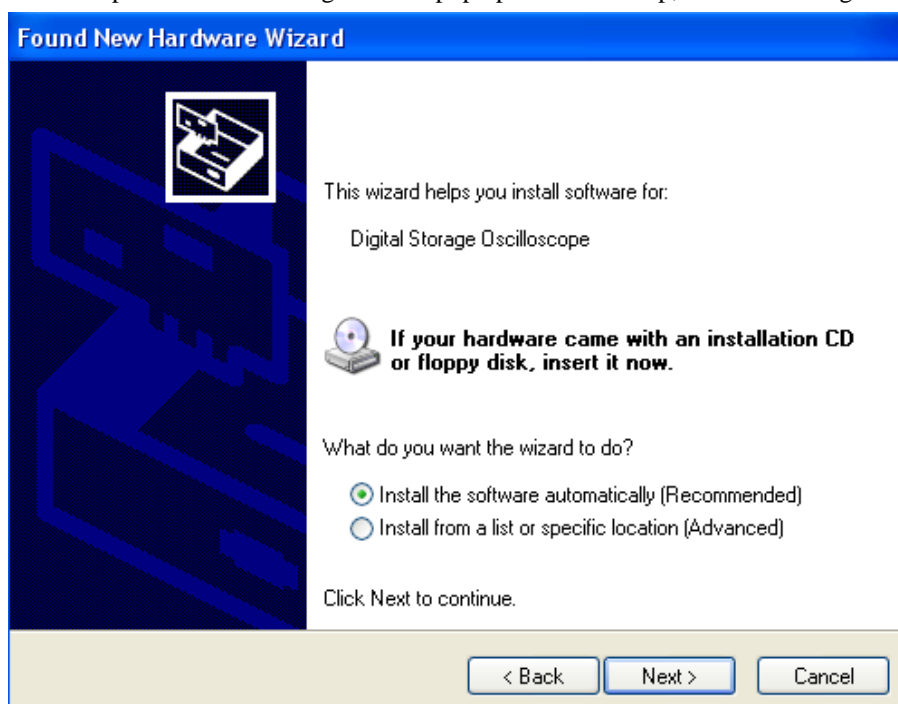
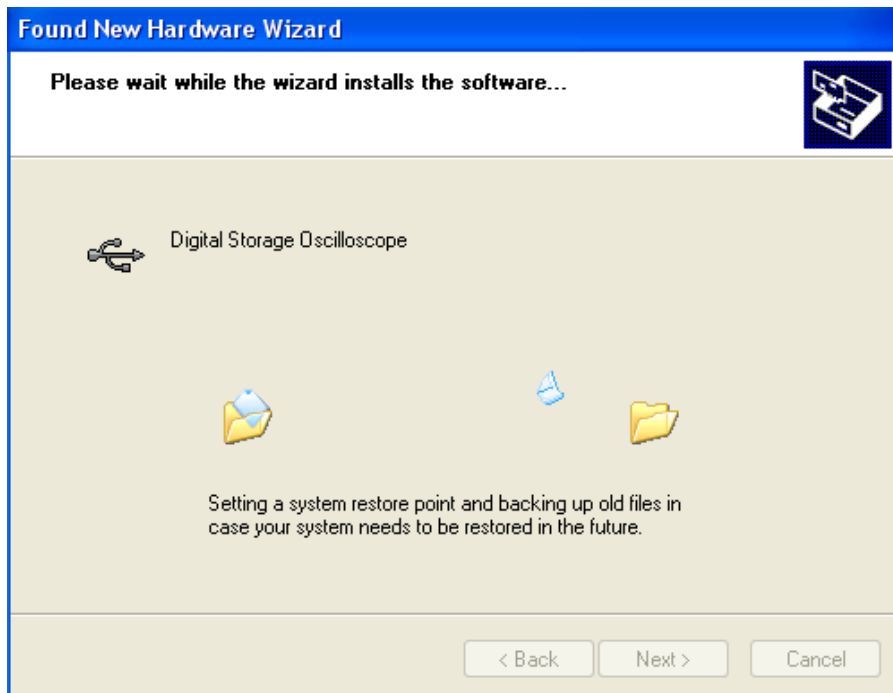
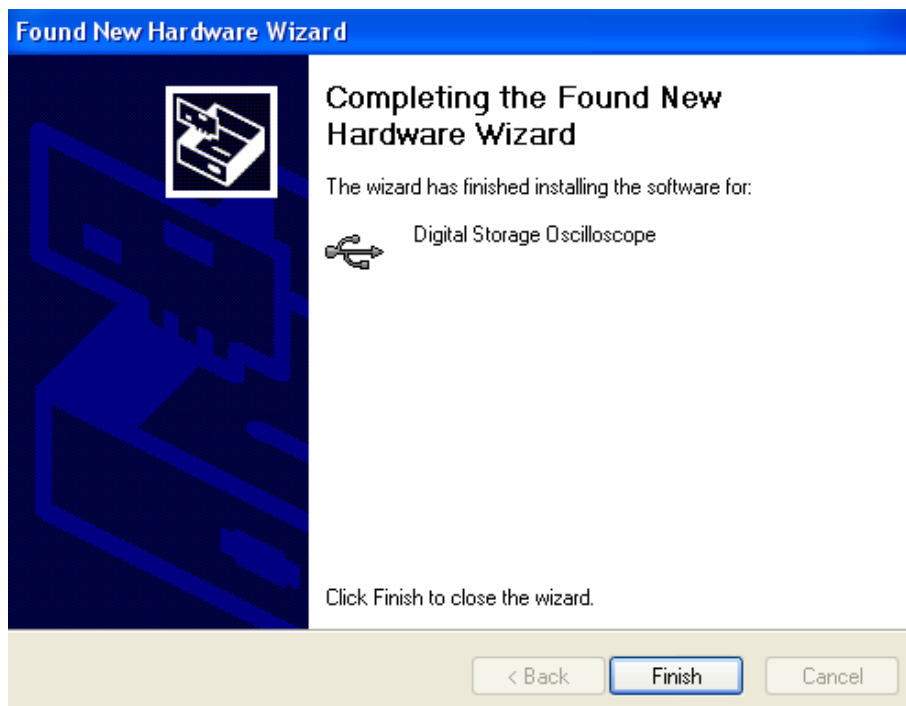

Fig 1-12
Fig 1-13
Fig 1-14
Then a “hardware update wizard” dialog box will pop up on the desktop, as shown in Fig 1-12.
3. In the new hardware wizard dialog box in Fig 1-12, select the “automatic software installation (recommended) (I)” option, then click [NEXT (N)] to enter the automatic driver search and installation page, as shown in Fig 1-13.
4. As shown in Fig 1-13, the hardware installation wizard of your digital storage oscilloscope begins automatic searching and installing the USB driver for the oscilloscope communication and control software. When installation is complete the dialog box shown in Fig 1-14 pops up.
5. In Fig 1-14, click the [FINISH (F)] button. Your USB driver is now installed, and instant communication and control are enabled between the oscilloscope and the software. Please read “3.1 USB Interface Controls” in “Chapter 3 : Operation guide for the oscilloscope communication and control software” of this booklet prior to operation.